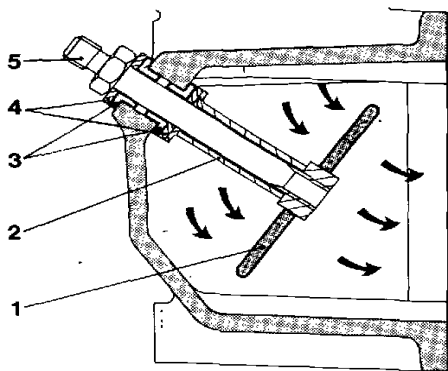

Fig. 223. Cross section, intake manifold – TID60, TID70
**TID60, TID70:** Tightening torque for terminals/attaching bolts (5, fig. 223) 11–14 Nm (1.1–1.4 kpm = 8–10 lbf.ft). Engage the pre-heater after assembly so that the wire elements become red hot. Then break the current and let the element cool. Thereafter re-tighten all bolts with the same torque.